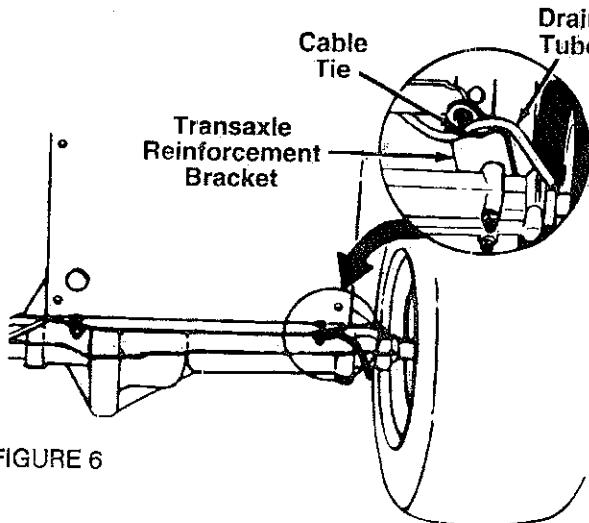

FIGURE 6
- 6 Secure battery by hooking battery strap into slot in rear frame, under the fender. See figure 6.
- 7 Insert the drain tube through the hole in the transaxle bracket or through the cable tie (if so equipped) which is attached to the transaxle reinforcement bracket on the right side of the unit. See figure 6. Be certain drain tube is routed away from the wheel rim.